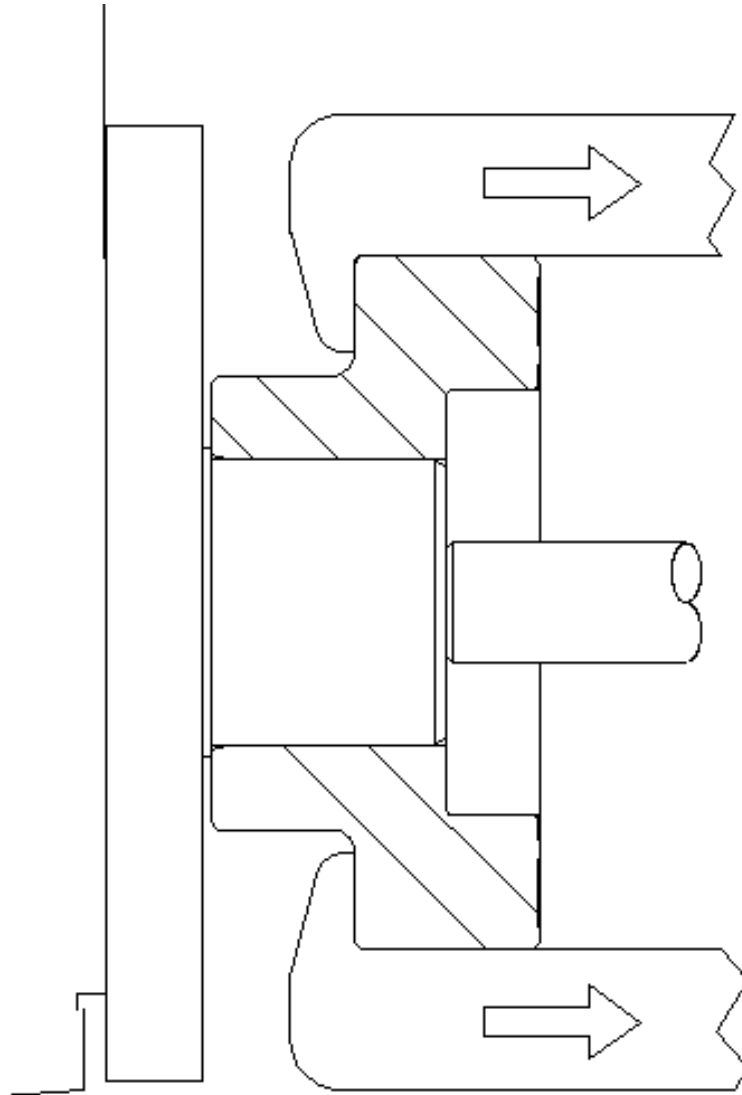

Figure 42. Simple Disassembly Device
2. Use an appropriate puller to pull the coupling from the output shaft (Figure 42). Apply force against the end of the exposed output shaft while pulling on the couplings. Do not apply a blunt force to the coupling or shaft.